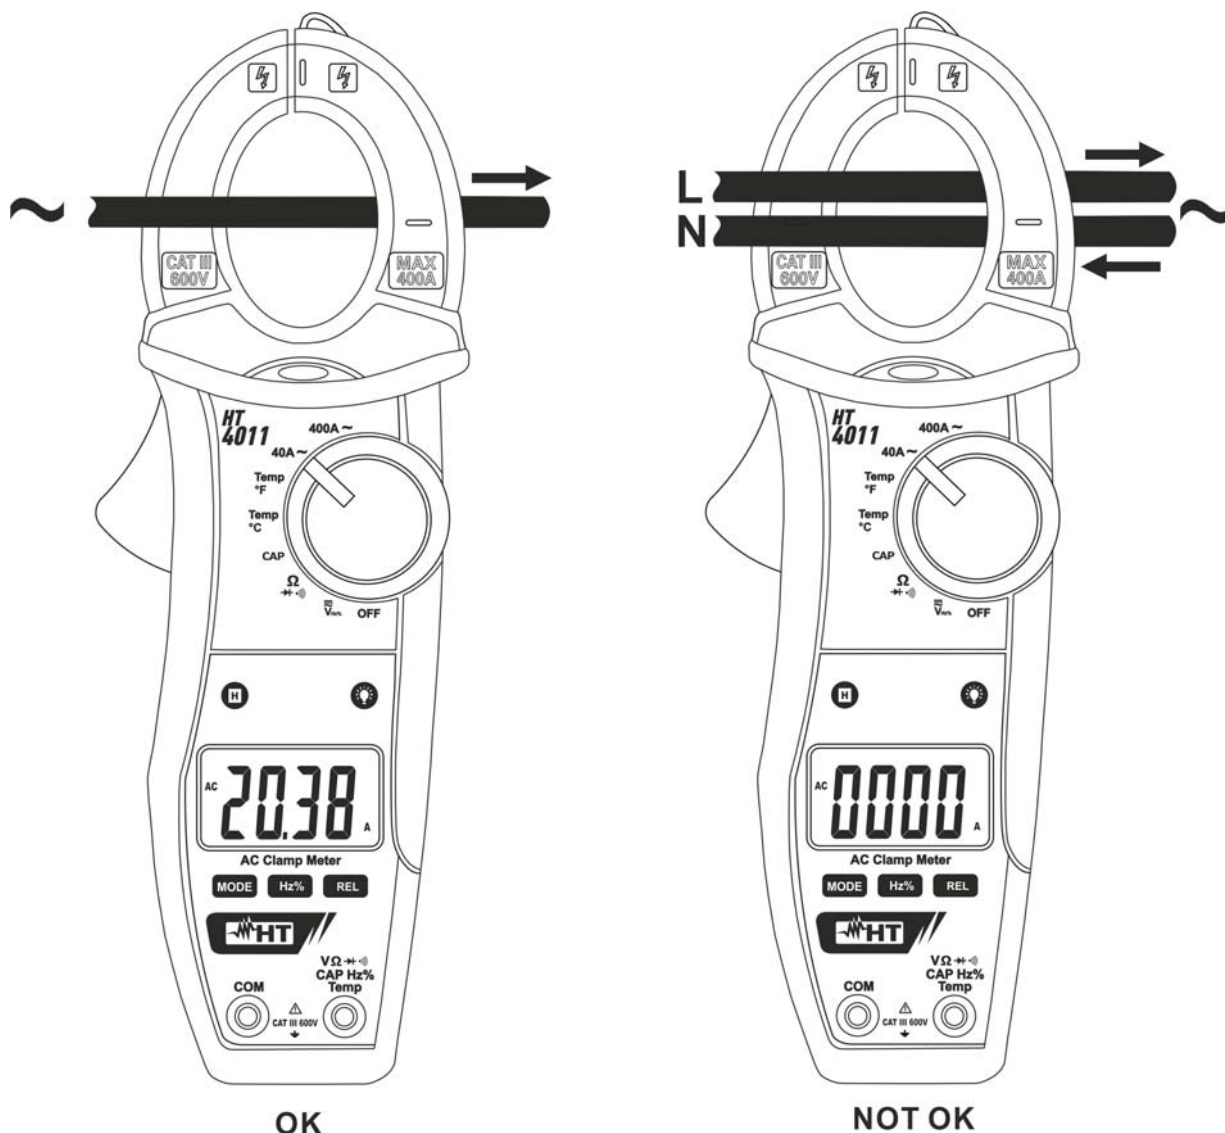

Fig. 10: Use of the clamp for AC current measurement
2. Insert the cable in the middle of the clamp jaws, in order to obtain accurate measures (see Fig. 10 – left side). The display shows the value of AC current